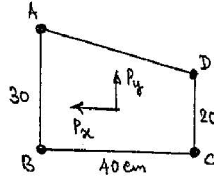

Fig.1
11. (a) A box beam with 50 cm length is subjected to loads $P_x = 8 \text{ kN}$ and $P_y = 25 \text{ kN}$ as shown in the fig.1. The stringer areas are 3 cm^2 each. Find the maximum bending stress.